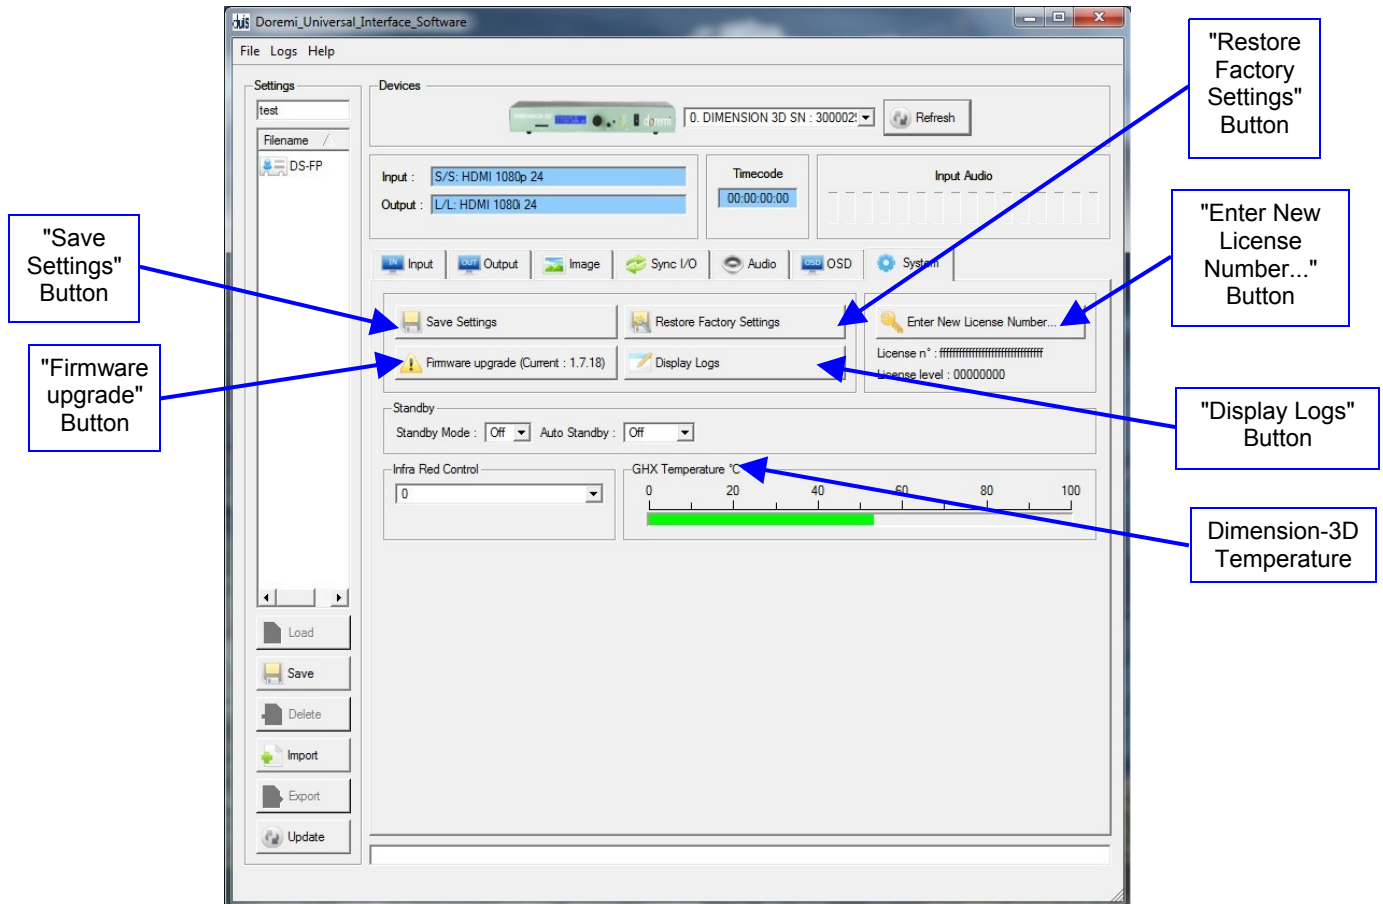

Figure 19: Doremi Universal Interface GUI – System Tab
- Save: To save the current settings to flash, click on the “Save Settings” button (Figure 19).
- Restore: To restore the Dimension-3D back to the factory default settings, click on the “Restore Default Settings” button (Figure 19).
- License Number: To enter a new license number, click on the “Enter New License Number ...” button and type the new license number in the pop-up window (Figure 19).
- Firmware Upgrade: To perform a firmware upgrade, click on the “Firmware upgrade (Current: x.yy)” button (Figure 19).
Note: The "Firmware upgrade" button provides the current firmware version installed on the connected unit. It is shown after "Current:". On the image above (Figure 19), the current firmware is version 1.2.15. See Section 6.1 for detailed upgrade steps.
- Logs: To display the logs click on the "Display Logs" button (Figure 19).